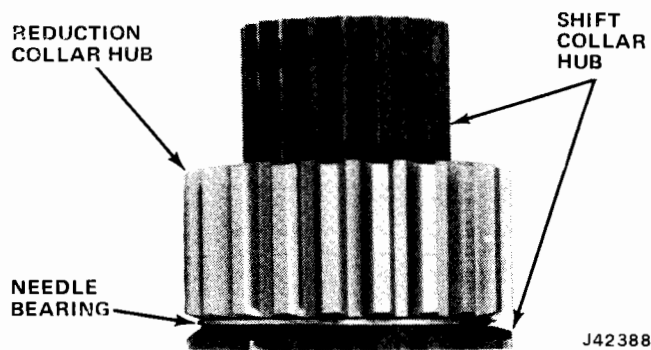

Fig. 8-37 Needle Bearing and Reduction Collar Hub
(22) Install needle bearing and reduction collar hub on shift collar hub (fig. 8-37).